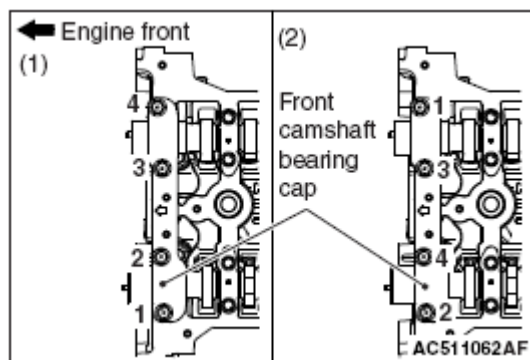

Fig. 49: Identifying Front Camshaft Bearing Cap To Cylinder Head
1. Install the front camshaft bearing cap to the cylinder head, and temporarily tighten the front camshaft bearing cap mounting bolts to the specified torque in the order of the (1) in **Fig. 49**
2. Tighten the front camshaft bearing cap mounting bolts again to the specified torque in the order of the (2) in **Fig. 49**